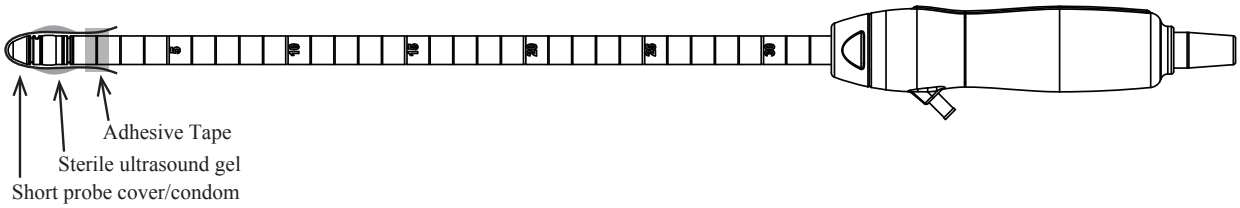

Figure 3 Mounting a short probe cover
- (1) Mount a short probe cover on the probe tip and tie the short probe cover by adhesive tape.
- (2) Apply sterile ultrasound gel to the short probe cover on the ultrasonic radiation part (Figure 3).